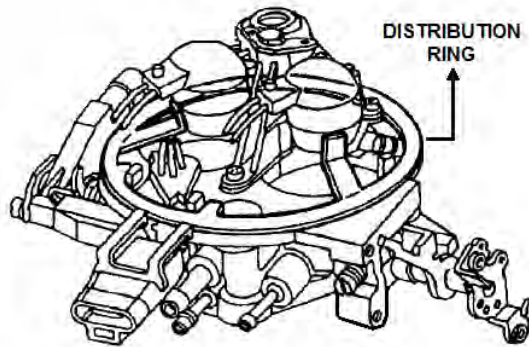

Figure 12: Distribution Ring Installation
2. Place the distribution ring over the top of the injector pod assembly and position it so that it rests securely on the outer edge of the throttle body. Ensure that the two tabs on the distribution ring are pointing upwards and are resting on the injector pod assembly (Fig. 12).